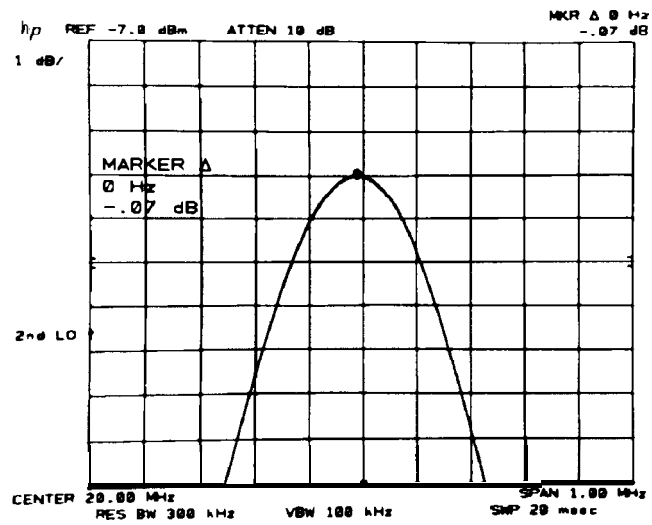

Figure 2-16. RF Gain Uncertainty Measurement
6. Press **SHIFT**, **↑** and read **MARKER** **Δ** amplitude from display (see Figure 2-16). This amplitude should be between -1.0 dB and +1.0 dB.